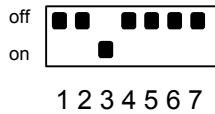
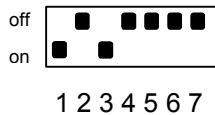

Figure 12: DIP switch settings to enable repeater mode for an regular L-Switch
Figure 13: DIP switch settings to enable repeater mode for an L-Switch XP
1. Set the L-Switch into repeater mode (switch OFF subnet/node learning and group learning) by setting DIP switches 1 and 2 in the appropriate position (see Figure 12 and Figure 13).
Figure 12 and Figure 13 show the proper DIP switch settings for repeater mode on the two different L-Switch versions, assuming all other DIP switches remain in the factory default position.